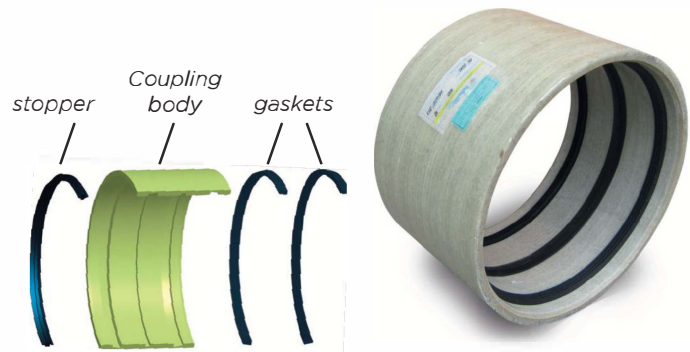

Fig 3 - "BETO" coupling
- With polyester "BETO" couplings (fig. 3);